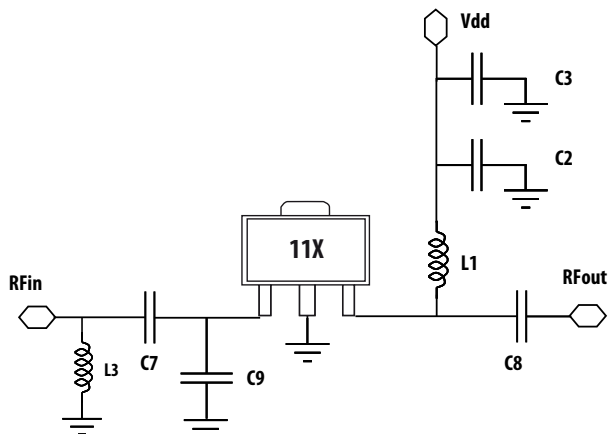

Figure 34. Circuit diagram
1. Typical performance obtained from a test circuit described in Figure 34.